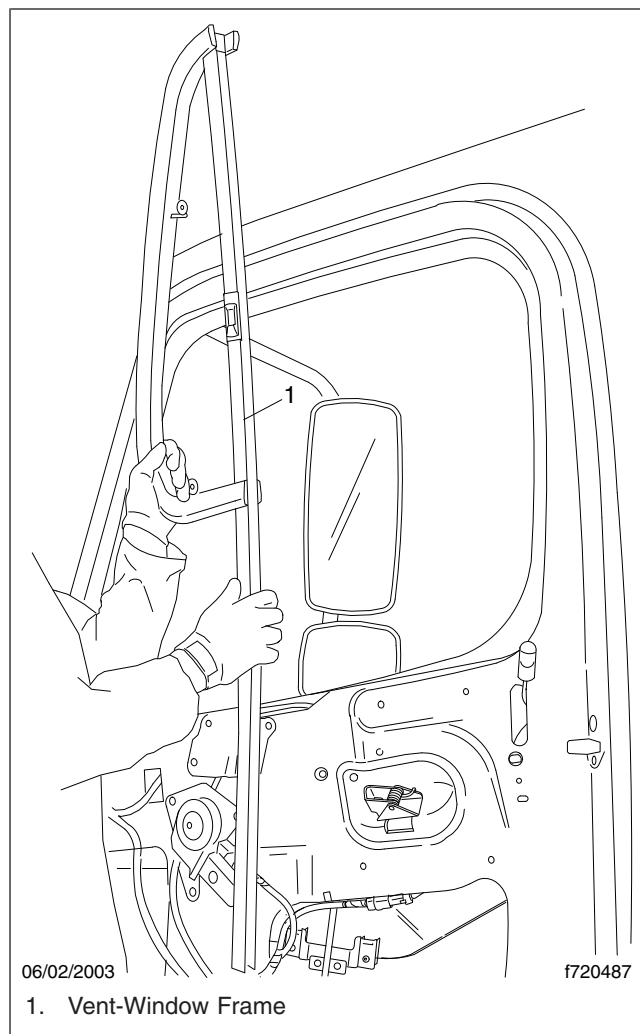

Fig. 1, Remove/Install the Vent-Window Frame Assembly
- 6.3 Pull the vent-window frame assembly up and out of the window opening. See Fig. 1.
- 12.1 Slide the run channel through the window opening, then install the vent-window frame in the opening. See Fig. 1.